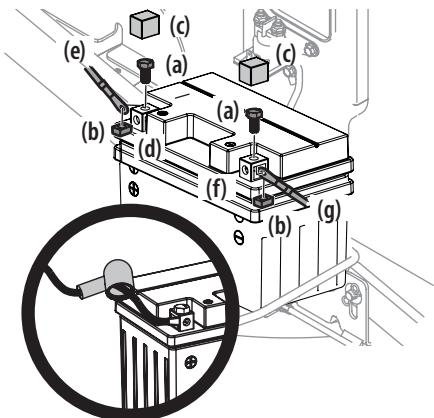

Figure 14
- Remove the hex screws (a) and square nuts (b) located either on the end of the wiring harness or in the bag with this manual. Retain the hardware for later instructions. See Figure 14 on page 11.
- Remove the plastic cover (c), if present, from the positive battery terminal (d) and attach the red cable (e) to the positive battery terminal (d) with one of the hex screws (a) and square nuts (b), from Step 1. Use a Philips screw driver. See Figure 14 on page 11.
- Remove the plastic cover (c), if present, from the negative battery terminal (f) and attach the black cable (g) to the negative battery terminal (f) with the remaining hex screw (a) and square nut (b). See Figure 14.
- Position the red rubber boot over the positive battery terminal to help protect it from corrosion. See inset in Figure 14.